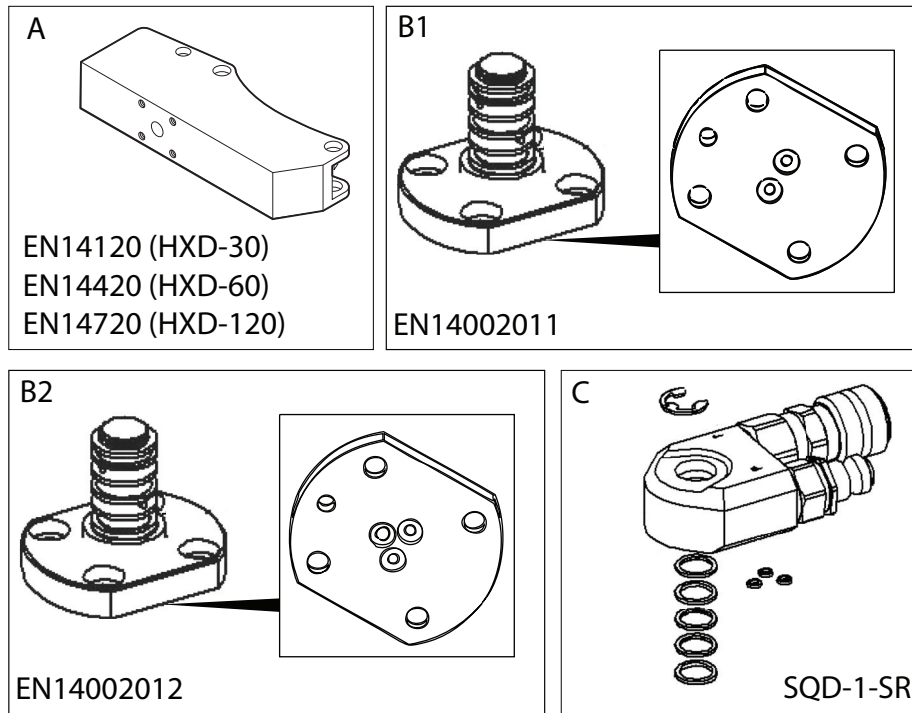

Figure 5, HXD 30, 60, 120
- Current wrench housing replaces all earlier wrench housings. See Figure 5, item A, for part numbers.